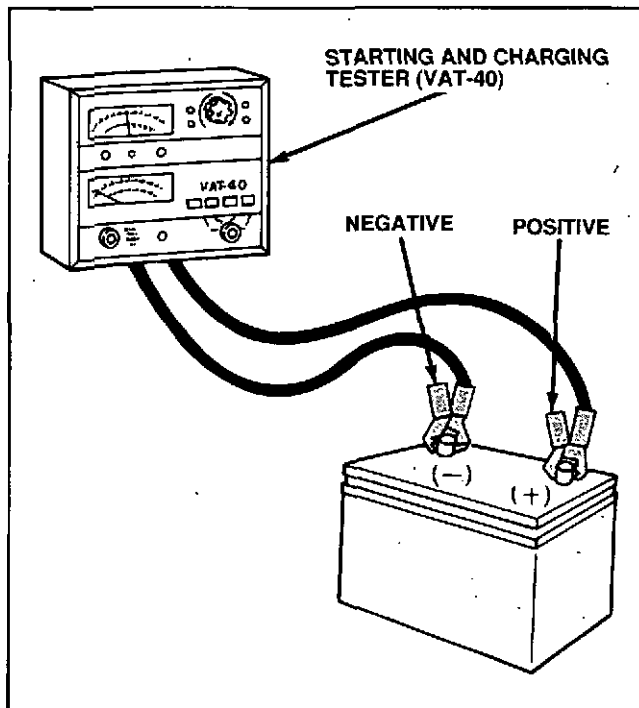

Figure 3-10 Load Test
2. Attach the tester's positive lead to the positive (+) battery terminal and negative lead to the negative (-) battery terminal (Figure 3-10).